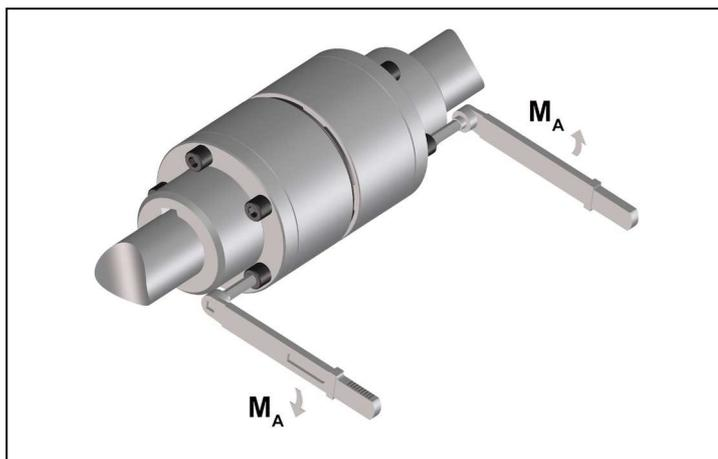

Fig. 11
- Tighten up the bush screw fitting with the tightening torque  $M_A$  stipulated in table 7 (Figure 11).